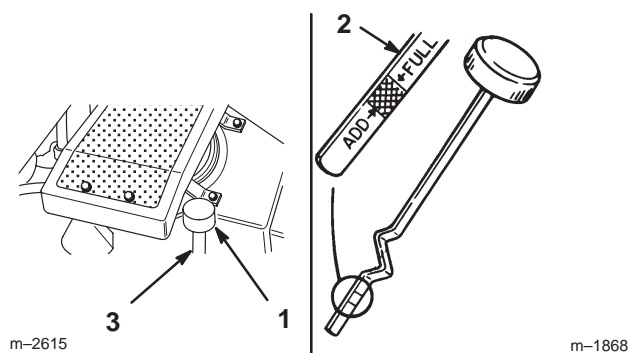

Figure 20
2. Clean around the oil dipstick (Fig. 20) so dirt cannot fall into the filler hole and damage the engine.
3. Unscrew the oil dipstick and wipe the metal end clean (Fig. 20).
- Slide the oil dipstick fully into the filler tube, do not thread onto tube (Fig. 20). Pull the dipstick out and look at the metal end. If oil level is low, slowly pour only enough oil into the filler tube to raise the level to the full mark.
5. Slowly pour approximately 80% of the specified oil, page 26, into the filler tube (Fig. 20).